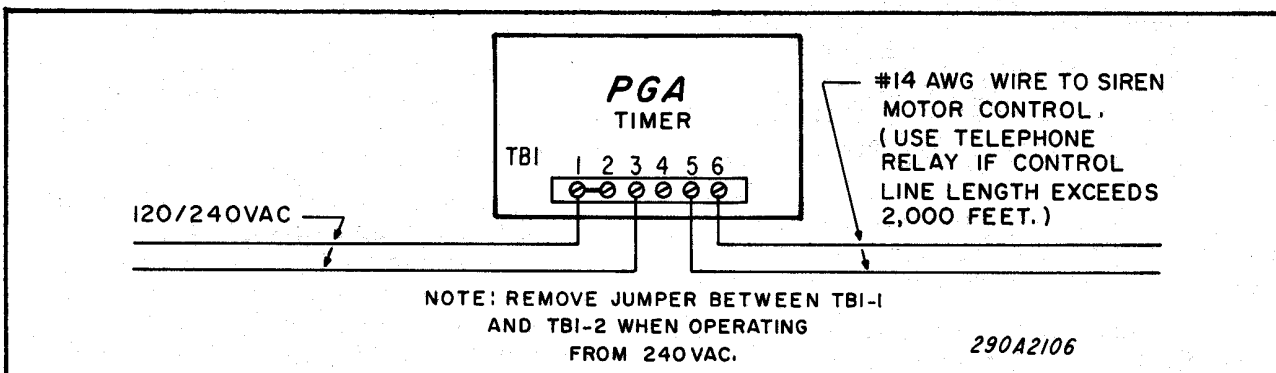

Figure 1. Model PGA Timer Electrical Connections.
A. PGA Timer (see figures 1 and 4).
The PGA timer can operate from either a 120-volt or 240-volt AC power source. Figures 1 and 4 illustrate the location of the jumper which must be removed for 240-volt operation and installed when operating from 120 VAC.